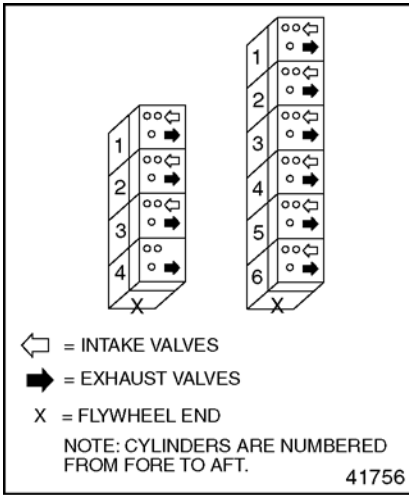

Figure 36 Cylinder and Valve Layout
4. Select a method for adjusting the valve lash. See Figure 36 for the valve layout on both four- and six-cylinder engines. There are two acceptable methods for adjusting valve lash: